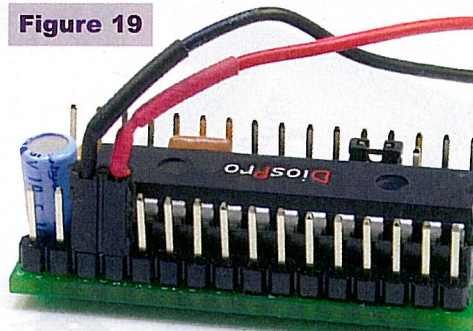

**Figure 23**
- **STEP 13:** Take one of the split jumpers and connect one end to the J1 pin 2 as shown in Figure 23. Then connect one of the other ends to the GPS GND lead (black). Connect the last end to the memory board pin 5 (GND).
With the second split jumper, connect one end to the J1 pin 1 as shown in Figure 23. Then connect the other ends to the GPS VCC and Enable leads (white and red).